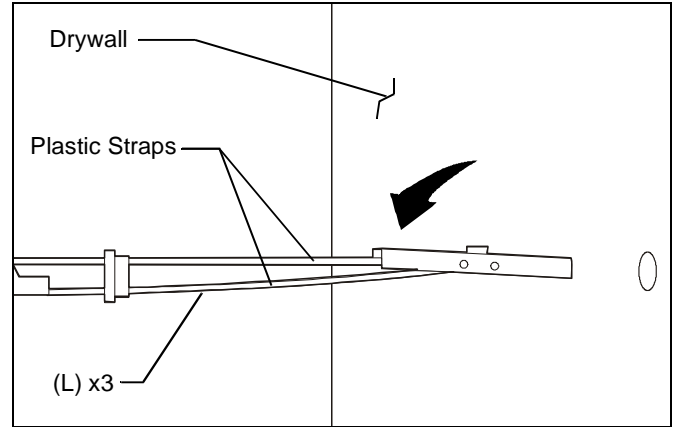

Figure 3
6. Hold metal channel on anchor (L) flat alongside plastic straps and slide channel through hole. (See Figure 3)